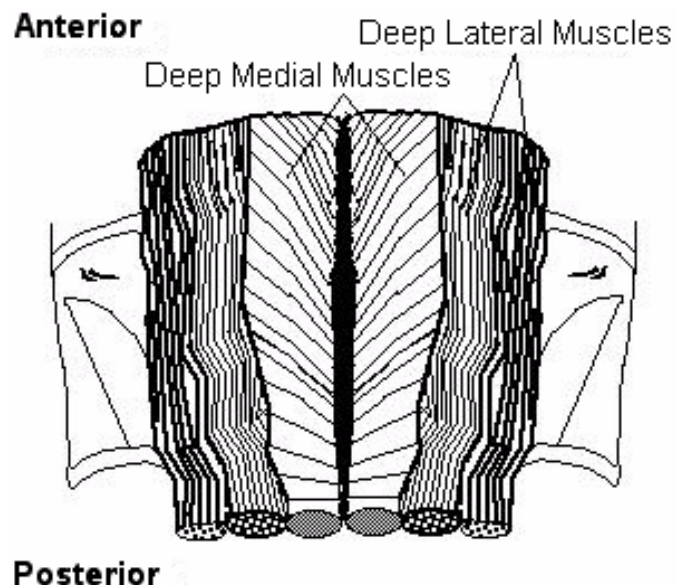

Figure NB-7-6: Ventral aspect of the second abdominal segment of crayfish. Dorsal musculature removed on the right side and intact on the left side.
- 10 Examine the preparation, compare with Figure NB-7-6 on page NB-7-5 and identify: